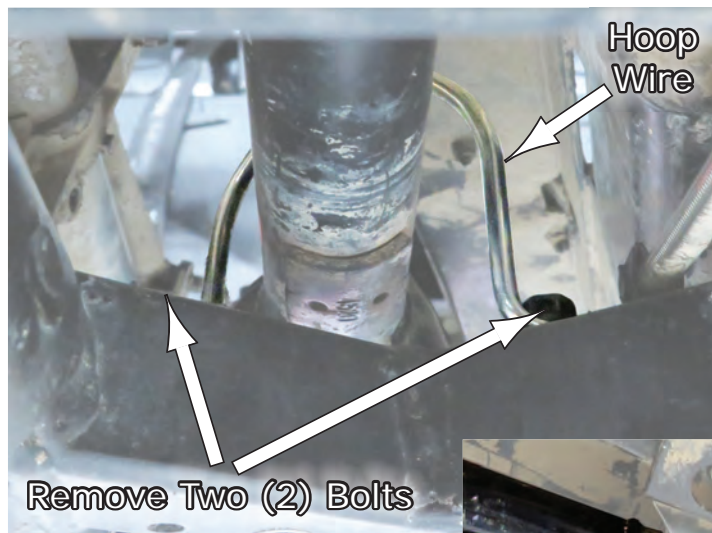
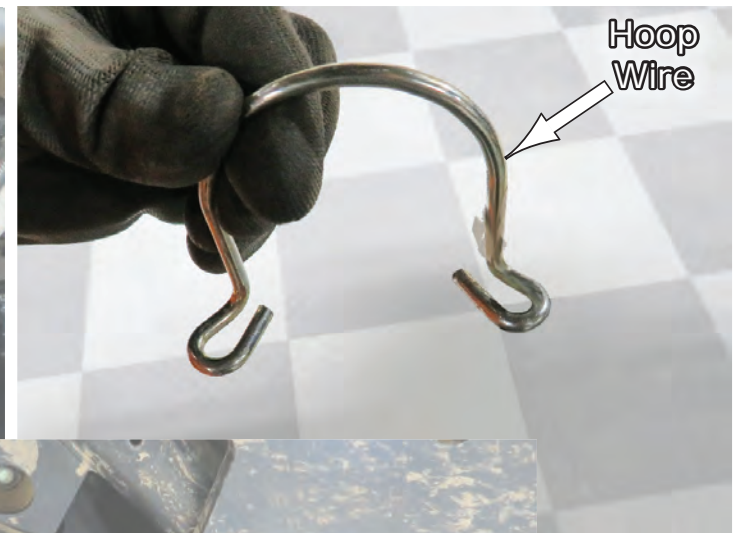

Fig.8a
Fig.8b
8. After loosening the shaft bolts, now look for the **Alignment Hoop Wire** which is located just forward of the carrier bearing and you will remove the two (2) bolts holding it on as shown in **Fig.8a**, and then remove the **Hoop Wire** as shown in **Fig.8b**. **Fig.8c** shows location under the vehicle.